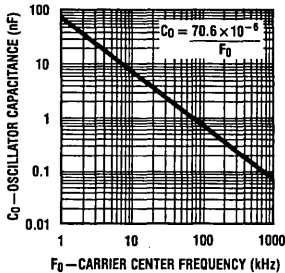

FIGURE 6. Find C_0 's value knowing F_0 TL/H/6750-5
be made above 10 pF so that parasitic capacitance is not dominant. Excessive or unbalanced common-mode-to-ground capacitance should be avoided. A low temperature coefficient (TC) of capacitance (<100 PPM/°C), such as a monolithic NPO ceramic multilayer type, preserves low TC of F_0 . Figure 6 finds a C_0 value given F_0 .